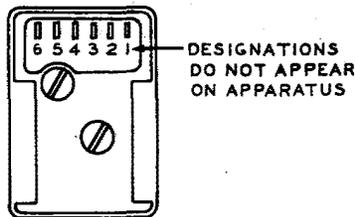

Fig. 103 – Winding Terminal Numbering as Viewed From the Rear (wiring side) of 274-type Inductors (retard coils)
4.09 274-Type Inductors: The wiring terminals of these inductors are numbered from 1 up beginning at the right as viewed from the wiring side, as shown in Fig. 103.